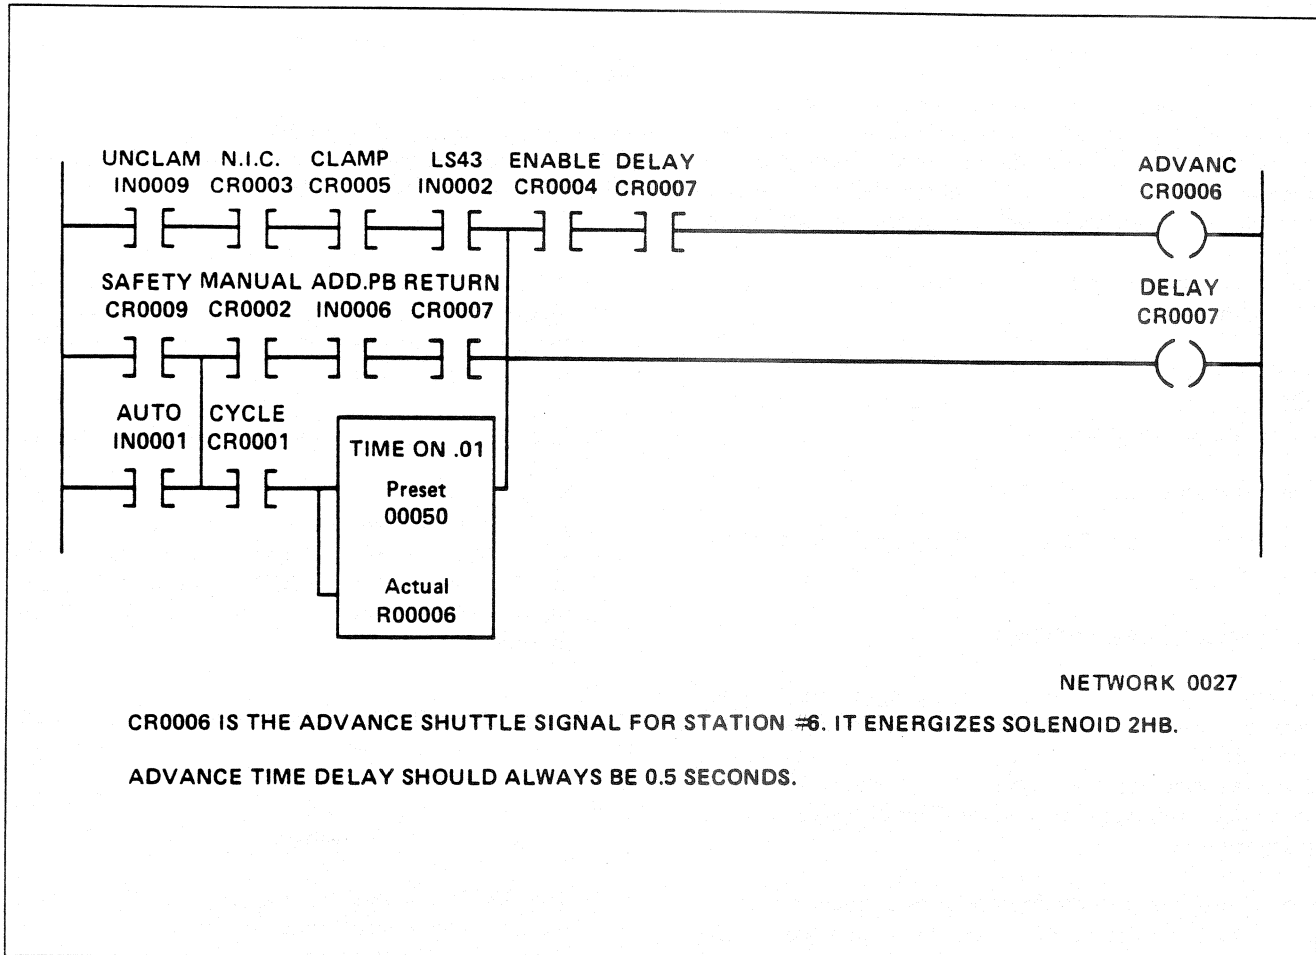

Figure 6-29. Ladder Documentation
- **Special labels**, which appear directly above each CR or Latch coil and IN or CR contact label. (See Figure 6-29.) These special labels range from 1 to 6 alphanumeric characters.
The Advanced Program Loader assigns "network numbers" to each ladder diagram segment which appears on the screen and has been entered into the processor's memory as a unit. (This statement assumes on-line operation.) A network number appears at the lower right-hand corner of the display. (See Figure 6-29.)